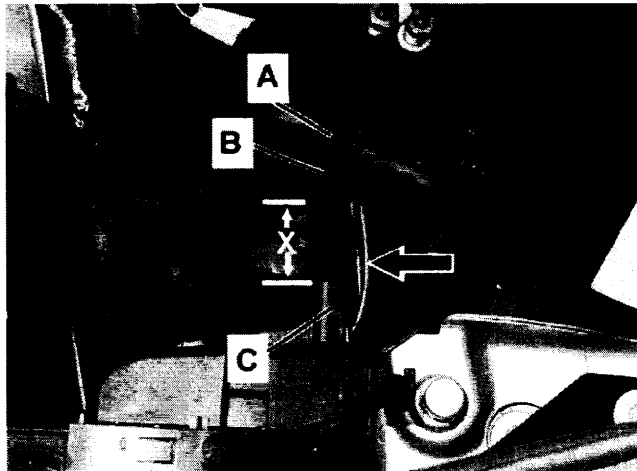

Figure 15
21. Secure ground wiring harness (arrow, Figure 15) to SBC wire harness (A) using two layers of fabric tape (B). Tape should be affixed 35 mm (X = 35 mm, Figure 15) from end of connector cover receptacle (C).